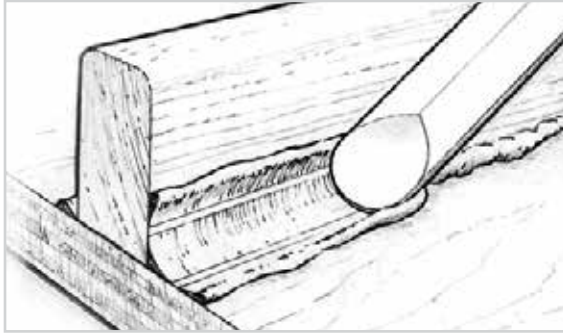

Figure 8-12 Shape and smooth the fillet with a rounded tool.
2. Shape and smooth the squeezed-out thick epoxy into a fillet by drawing a rounded filleting tool (mixing stick) along the joint, dragging excess material ahead of the tool and leaving a smooth cove-shaped fillet bordered on each side by a clean margin. Some excess filleting material will remain outside of the margin (Figure 8-12). Use the excess material to refill any voids. Smooth the fillet until you are satisfied with its appearance. A mixing stick will leave a fillet with about a $\frac{3}{8}$ " (9 mm) radius. For larger fillets, an 808 Plastic Squeegee, cut to shape or bent to the desired radius, works well.